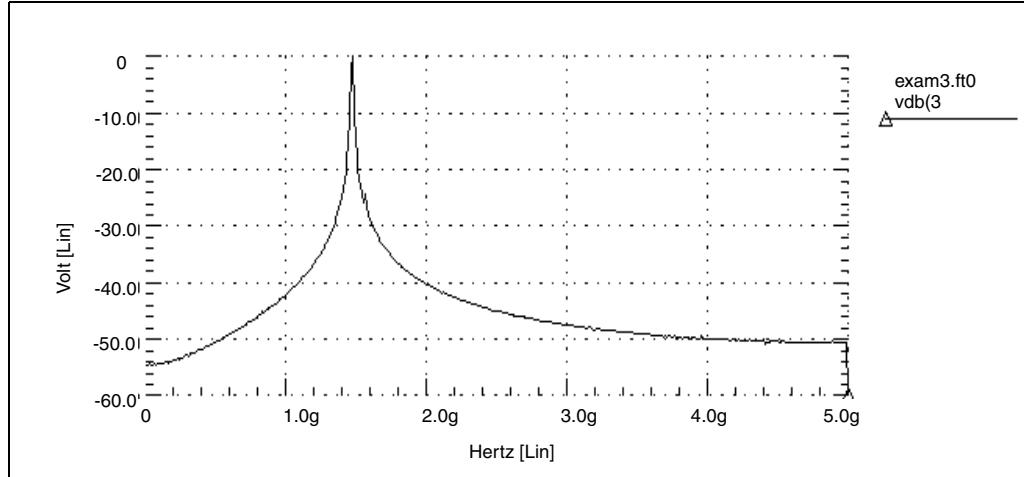
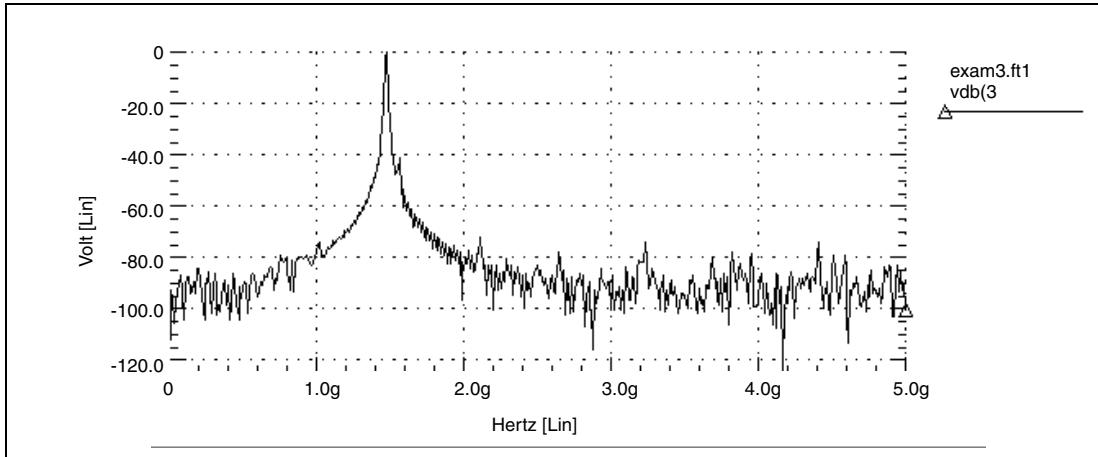
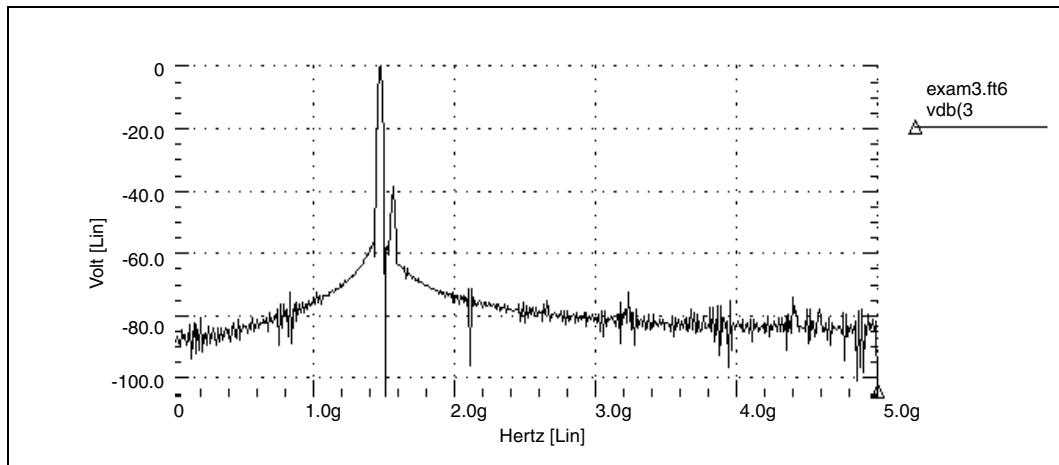
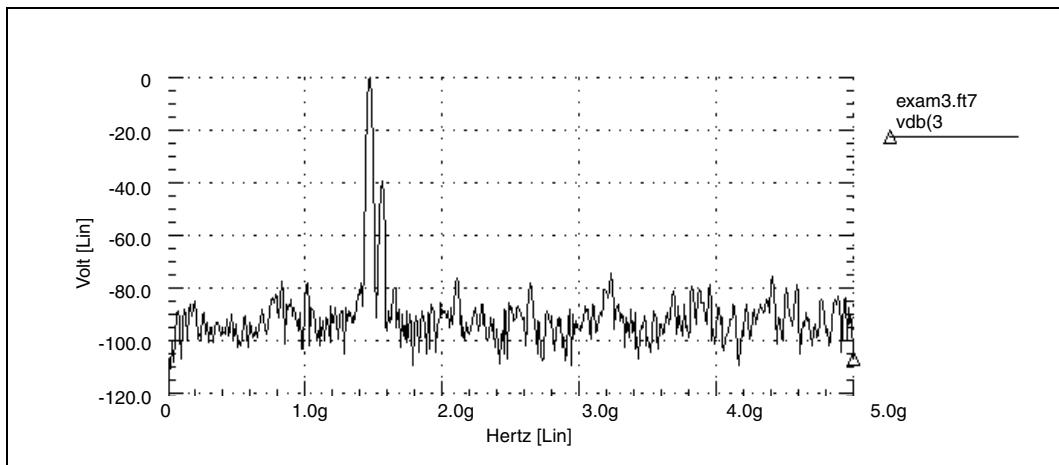

Figure 71 Mixer Output Spectrum, Rectangular Window
Figure 72 Mixer Output Spectrum, Bartlett Window
Figure 77 Mixer Output Spectrum, Gaussian Window
Figure 78 Mixer Output Spectrum, Kaiser-Bessel Window
Figure 71 shows the rectangular window. Compare this with the spectra of the output for all FFT window types, as shown in Figure 72 through Figure 78. Without windowing, HSPICE or HSPICE RF does not detect the weak signal because of spectral leakage.
- In the Bartlett window (Figure 72), the noise floor increases dramatically, compared to the rectangular window (from -55, to more than -90 dB).
- The final two windows (Figure 77 and Figure 78) use the `ALFA=3.0` parameter, which is the default value in HSPICE or HSPICE RF. These two windows also produce acceptable results, especially the Kaiser-Bessel window, which sharply separates the two tones, and has a noise floor of almost -100-dB.